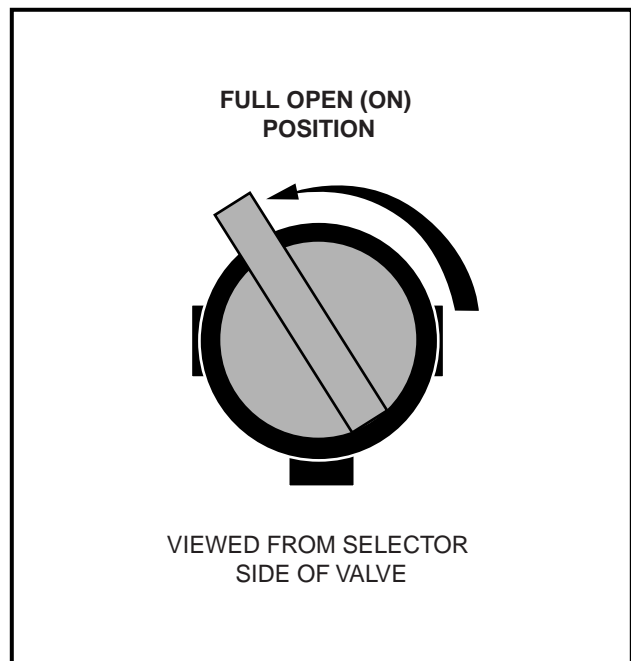
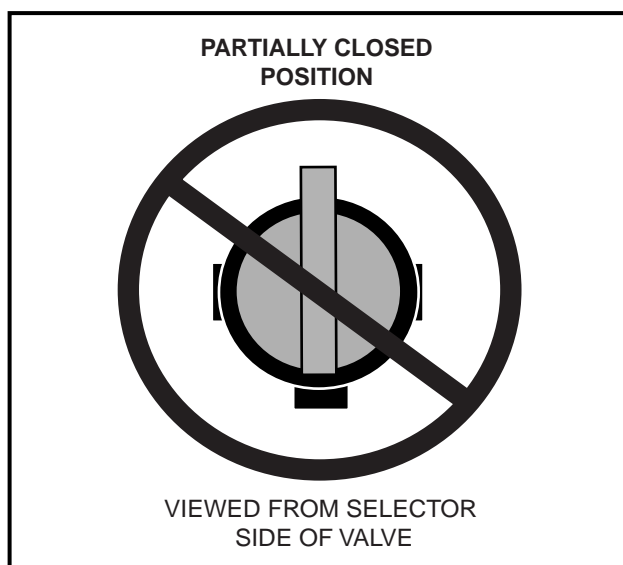

Figure 3-3 Open Fuel Shut-off Valve
Figure 3-4 Incorrect Fuel Shut-off Valve
- 2.1. Remove plug from the fuel tank vent nipple and open the fuel shut-off valve (**Figure 3-3, Page 3-3**). Make sure the valve is fully open. A partially closed fuel shut-off valve combined with the use of the choke, can result in a fouled spark plug and engine failure (**Figure 3-4, Page 3-3**).